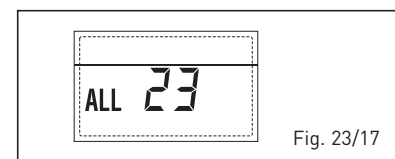

Fig. 23/17
– **ANOMALIA Sonda COLETOR SOLAR (S1) “ALL 24”** (fig. 23/18)